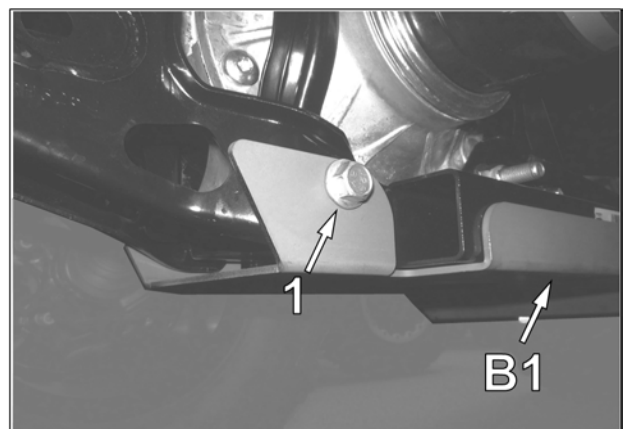
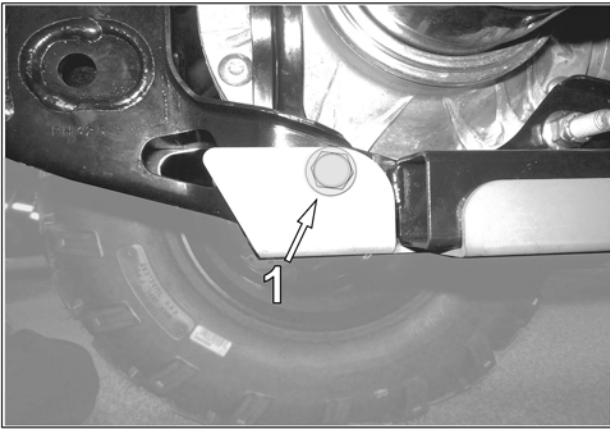

Fig. 3
Fig. 4
- Remove the rear differential mounting bolt (1). Position the rear anchor plate (B1) under the vehicle. Align the holes at the end of the plate with the vehicle's rear differential mounting holes. Reinstall the rear differential mounting bolt (1) and use the new nut (B4) provided. Do not tighten the bolt completely. See Fig. 3 and Fig. 4